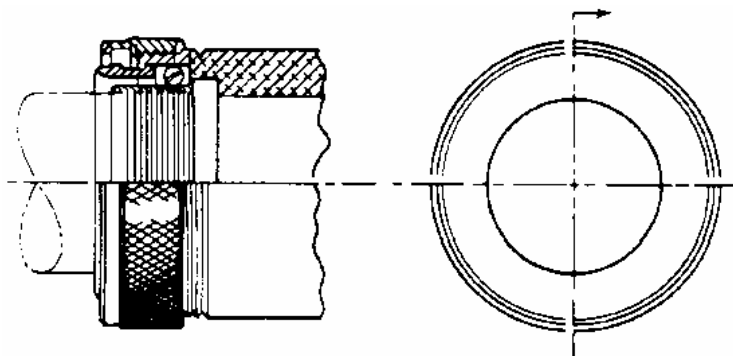

Figure 2. Half Coupling, Type 6355 (Size)
6. **Half Coupling.** The half coupling S355 or 6355 is designed to use a boss WS61 as its body and accepts one swaged tube while maintaining its flexing capabilities (Figure 2).